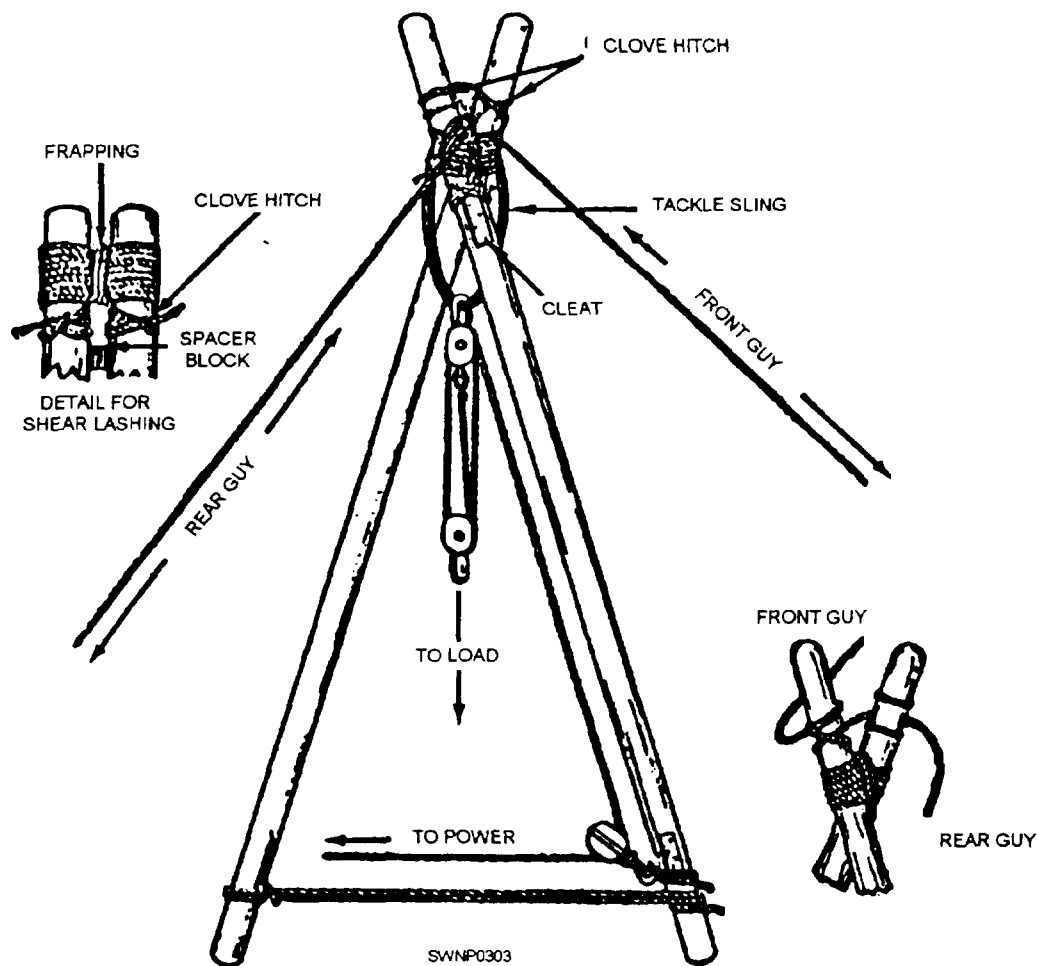

Figure 6-56.—Lashing for shears.
b. Place a large block under the tops of the legs just below the point of lashing (fig. 6-56), and insert a small spacer block between the tops at the same point. The separation between the legs at this point should be equal to one third of the diameter on one leg to make handling of the lashing easier.